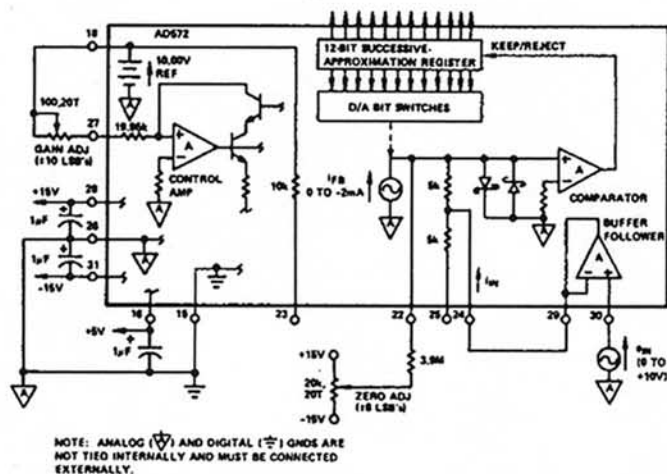

Figure 4. Analog and Power Connections for Unipolar 0 to +10V Input Range with Buffer Follower
Note 2 With 50 Ω, 1% fixed resistor in place of Gain Adjust pot; see Figures 4 and 5.
**Offset Adjust:** Analog and power connections for 0 to +10 V unipolar and -10 V to +10 V bipolar input ranges are shown in Figure 4 and 5, respectively. Bipolar Offset (Pin 23) is open-circuited for all unipolar input ranges, and connected to Comparator Input (Pin 22) for all bipolar input ranges. The zero adjust circuit consists of a potentiometer connected across  $\pm V_s$  with its slider connected through a 3.9 M $\Omega$  resistor to Comparator Input (Pin 22) for all ranges. The tolerance of this fixed resistor is not critical, and a carbon composition type is generally adequate. Using a carbon composition resistor having a -1200 ppm/ $^{\circ}\text{C}$  tempco contributes a worst-case offset drift of  $8 \times 244 \times 10^{-6} \Omega \times 1200 \text{ ppm}/^{\circ}\text{C} = 2.3 \text{ ppm}/^{\circ}\text{C}$  of  $FSR$ , if the OFFSET ADJ potentiometer is set at either end of its adjustment range. Since the maximum offset adjustment required is typically no more than  $\pm 4 \text{ LSB}$ , use of a carbon composition offset summing resistor typically contributes no more than 1 ppm/ $^{\circ}\text{C}$  of  $FSR$  offset drift.